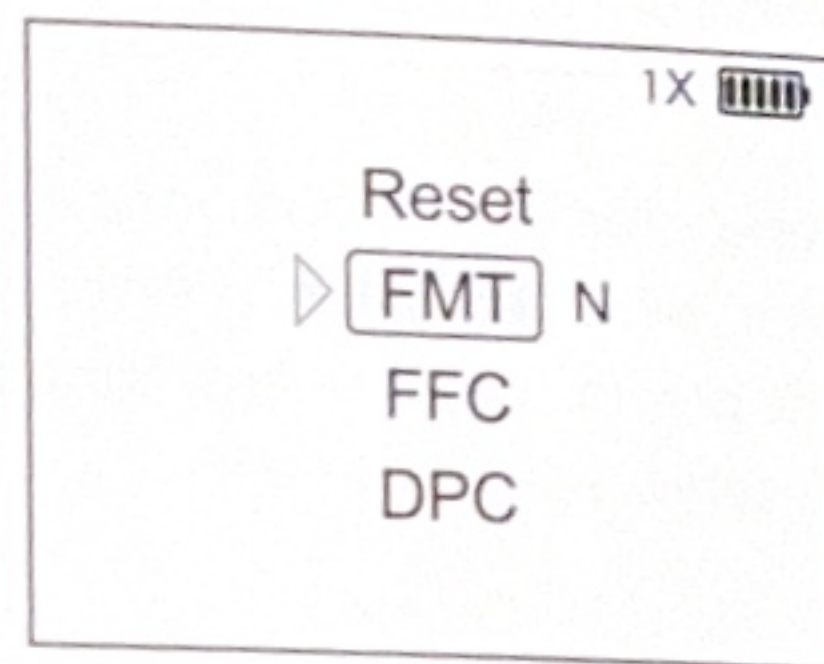

Fig 19
b. Format the DRS-TH Storage: From the Set menu, press the  $\nabla$  button to select FMT (Format). Press the  $\square$  button to enter the FMT settings interface. Press the  $\triangle$  or  $\nabla$  buttons to select N or Y. Selecting Y (Yes) will format the internal storage. To exit, press and hold the  $\square$  button to return to the previous menu. (See Figure 19)